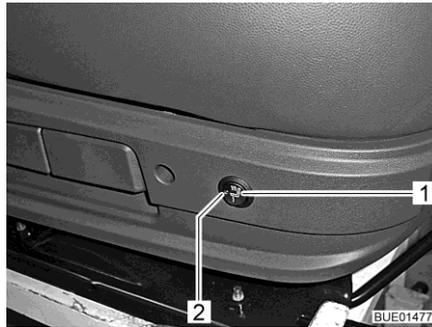

Fig. 35 Switch for seat heater
- Press the switch (Fig. 35,1) at the back on the left side of the seat console.
The LED (Fig. 35,2) comes on when the seat heater is in use.
- Set switch (Fig. 35,1) to the middle position. The LED goes out.